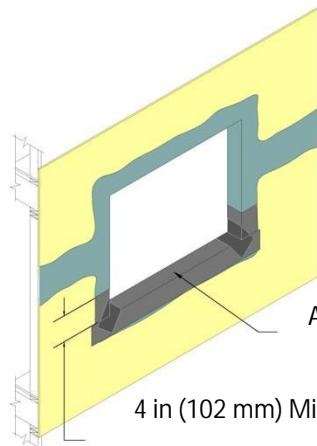

Fig. 11
- 3) Apply Dryvit AquaFlash System at sill in accordance with Sections IV.A.3 and IV.C respectively. NOTE: AquaFlash System must extend up the jambs a minimum of 4 in (102 mm) – Figure 11.